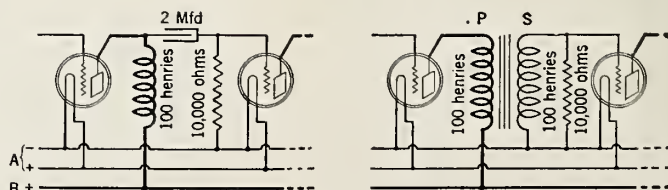

FIG. 12
on the plate. This system has just the same limitations as transformer coupling, and is theoretically equivalent to a one-to-one transformer, as shown in Fig. 12.
Tubes are worked beyond the straight portions of their characteristics in many radio sets in order to obtain sufficient volume, and this is particularly true of the last tube, when insufficient plate voltages are used, and also when tubes of low power output are used in the last stage. For a moderate amount of volume, tubes such as the UX-171 with some 180 volts, should be selected, and for a volume approaching the original in the broadcasting room, a tube of five or more watts should be used with over 300 volts on the plate. In case a plate voltage sufficiently high is not available, for instance, when a set is operated from the 110 volt d. c. lines, an increase in volume may be obtained by the use of an extra tube and working the last stage in the positive part of the characteristic, provided that condition (4) may be fulfilled. The extra tube is not meant for additional voltage amplification, but simply to supply sufficient power to the grid of the last tube so that the grid may take an appreciable current, yet without lowering the voltage impressed upon it. Fig. 12 shows how this may be accomplished with impedance-capacity coupling, and with transformer and resistance coupling.